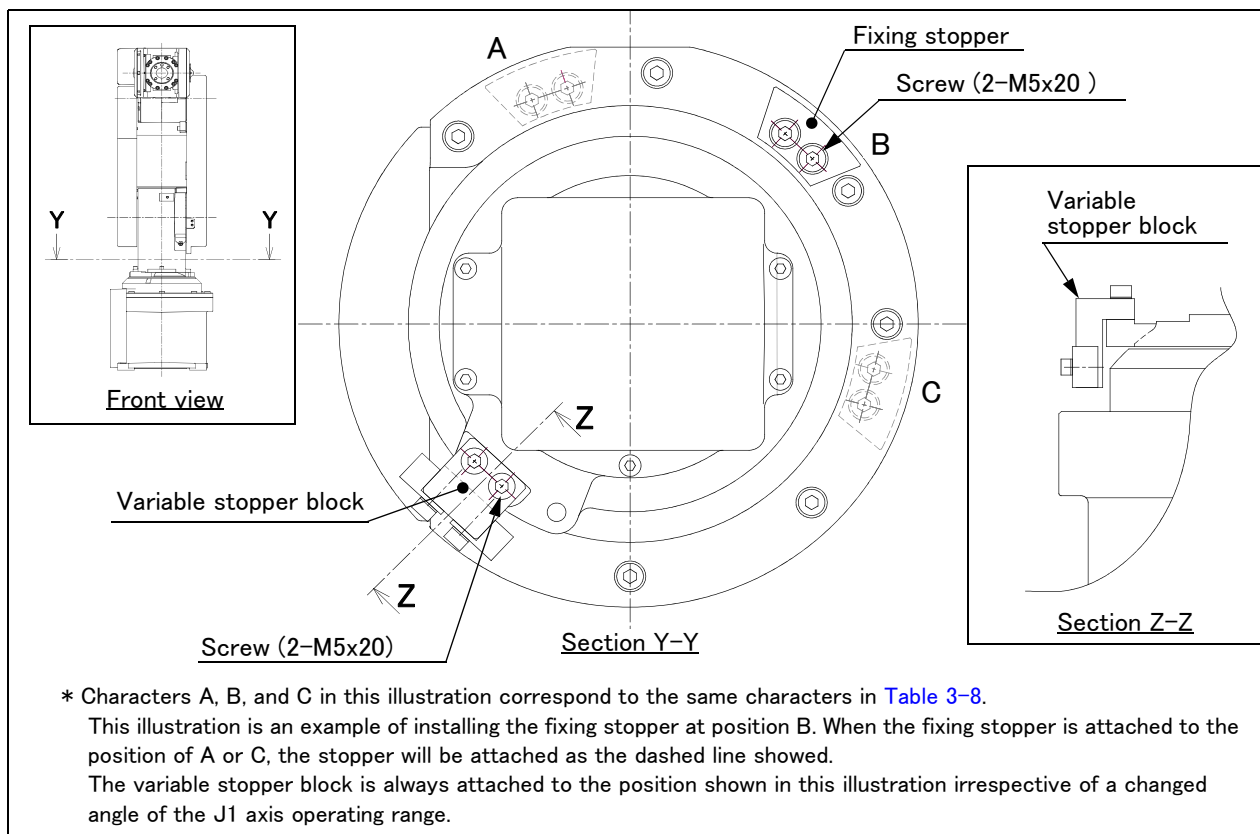

Fig.3-1 : Installation procedure of optional stoppers
The changeable angle of J1 axis is shown in Table 3-8. Refer to Table 3-8 to confirm the installation position of the fixing stopper corresponding to the angle to change or setting value of a parameter. Refer to Fig. 3-1 for details of the installation positions of the stoppers.
Note1) Characters A, B, and C in this table are correspond to the same characters in Fig. 3-1.
- 2) Refer to Fig. 3-1 and install the fixing stopper to the installation position corresponding to the angle to change. Tighten the screw firmly to fix the fixing stopper. (Tightening torque: 9.5 Nm)
- 3) Install the variable stopper block to the position shown in Fig. 3-1. Tighten screws firmly to fix the variable stopper block as well as the fixing stopper. (Tightening torque: 9.5 Nm)